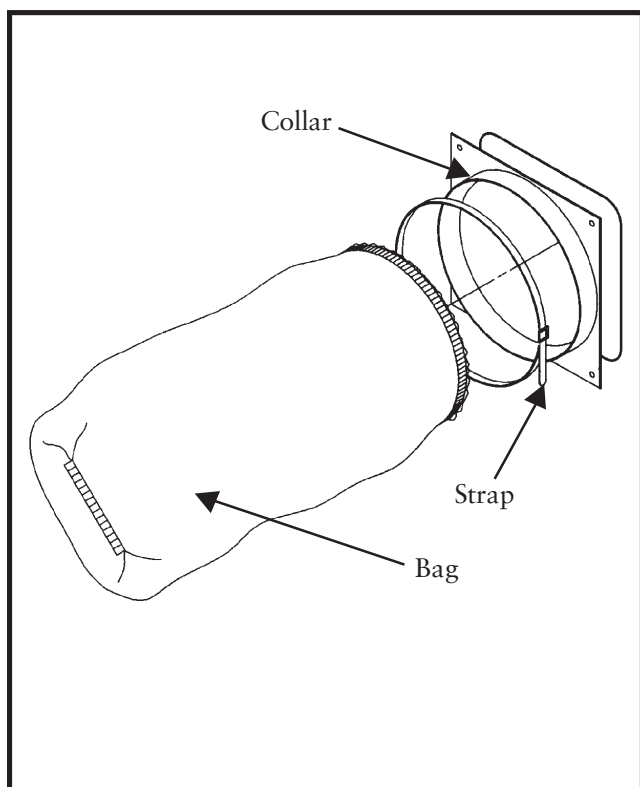
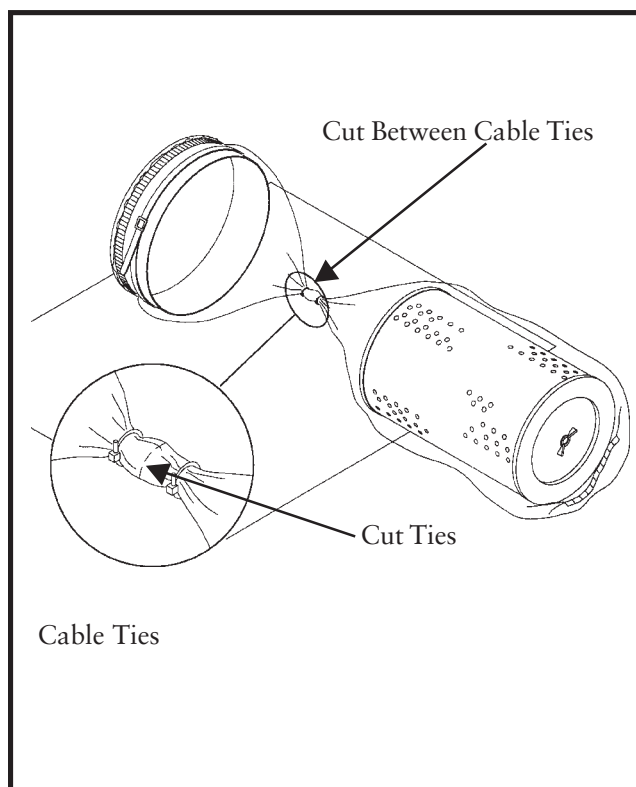

Figure 38
Figure 39
6.3 Bag-Out Filter Element Removal (See Figure 38 Bag-Out Assembly & Figure 39 Bag-Out Filter Removal)
1. Attach the polyethylene bag to the bag-out collar using the strap as shown in Figure 38 Bag-Out Assembly.
4. Use cable ties or tape to close the bag near the filter in two places about one or two inches apart (see Figure 39 Bag-Out Filter Removal). Cut the bag between the cable ties. Dispose of the filter properly.